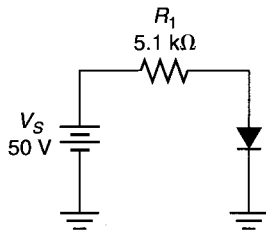

FIGURE 2.49
22. What is the minimum acceptable average forward current rating for the diode shown in Figure 2.49?
23. What is the minimum acceptable average forward power dissipation rating for the diode shown in Figure 2.49?